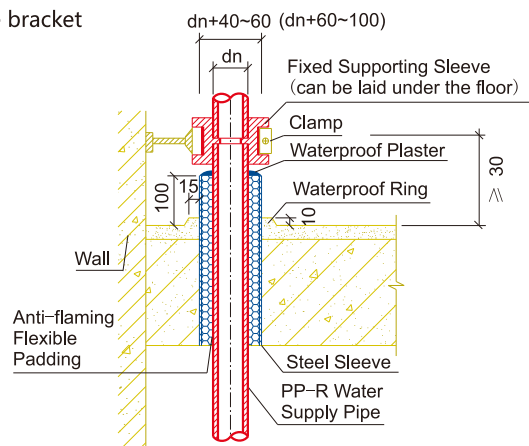

Fig.7 Pipe Crosses Floor (I Type)
- 2.1** The anti-leakage measurements should be well prepared before cross the pipe. The details of pipe crosses the floor show in figure 7 and figure 8. The crossing parts should be constructed with the clamps in the pipe system, take anti-leakage measurements, and fix the pipe well.